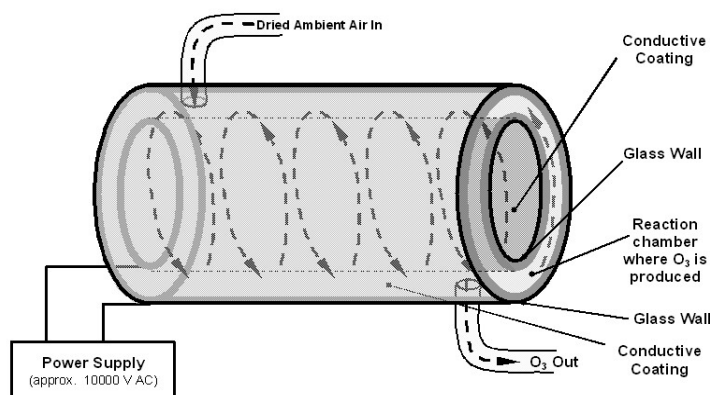

Figure 6-10. Ozone Generator Principle
The analyzer uses a dual-dielectric, Corona Discharge (CD) tube for creating its O₃, which is capable of producing high concentrations of ozone efficiently and with low excess heat (see Figure 6-10). The primary component of the generator is a glass tube with hollow walls of which the outermost and innermost surfaces are coated with electrically conductive material.